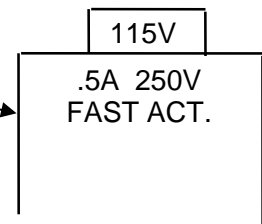

Figure 3
1. Unplug the power/mains cord from the unit (#2 in Figure 3).